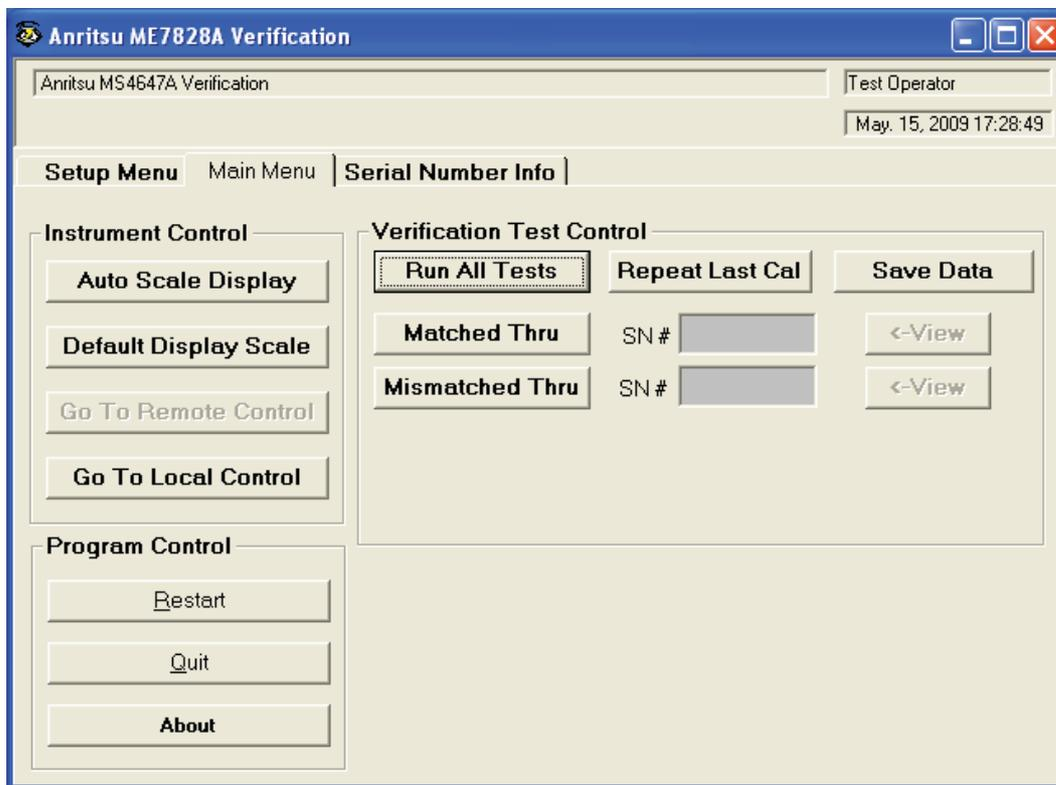

Figure 6-35. ME7828A Application Interface – Main Menu Tab
- The Main Menu tab display is described in the section immediately following and is shown in Figure 6-35, “ME7828A Application Interface – Main Menu Tab” on page 6-22
This command button runs both the Matched Thru and Mismatched Thru tests. Program execution starts with Section 6-9 “Matched Thru Tests” on page 6-27 and then continues with Section 6-10 “Mismatched Thru Tests” on page 6-29. When both tests are completed, program execution returns to the Main Menu tab shown in Figure 6-35, “ME7828A Application Interface – Main Menu Tab” on page 6-22.
This command button re-calibrates the VNA according to the CURRENT calibration. This provides a way to recalibrate the VNA without having to reset the program parameters in case the original calibration was flawed for some reason. When the calibration sequence is complete, program execution continues to the Main Menu tab shown previously in Figure 6-35, “ME7828A Application Interface – Main Menu Tab” on page 6-22.
This command button only runs the Mismatched Thru tests. If selected, program execution continues in Section 6-10 “Mismatched Thru Tests” on page 6-29. When the tests are completed, the program returns to the Main Menu tab shown in Figure 6-35, “ME7828A Application Interface – Main Menu Tab” on page 6-22.
9. If only the Matched Thru button was selected, the program returns to the “Application Interface – Main Menu Tab” on page 6-22. The dialog box is shown in Figure 6-35, “ME7828A Application Interface – Main Menu Tab” on page 6-22.
The dialog box is shown in Figure 6-35, “ME7828A Application Interface – Main Menu Tab” on page 6-22.